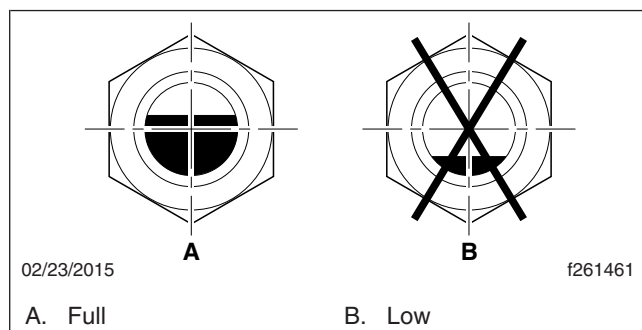

Fig. 4, Transmission Fluid Level Sight Glass
2. Check the fluid level in the sight glass. When the fluid level is at or above 3/4 of the sight glass, then it is at or above the minimum fill level. See Fig. 4.